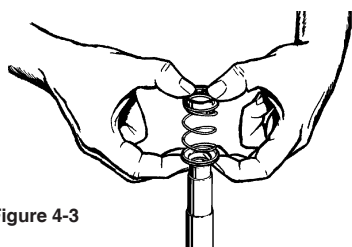

Figure 4-3
8. Remove the Seal Rotating Element (#12) from the sleeve. Refer to Figure 4-3. The element normally adheres tightly to the sleeve and some force may be necessary to remove it. This is common and if care is taken, the element can be reassembled and reused. **It is recommended that a new rotating element be used for reassembly. DO NOT**